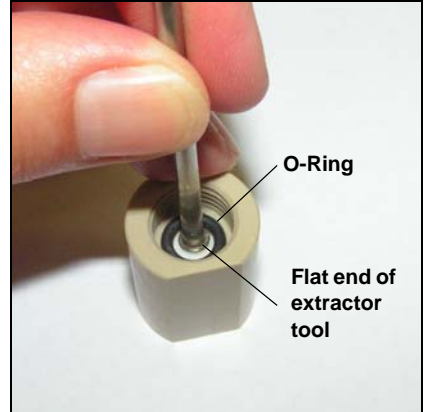

Figure 9. Removing the O-Ring
4. Insert the flat end of the extractor tool into the filter holder (see Figure 9).